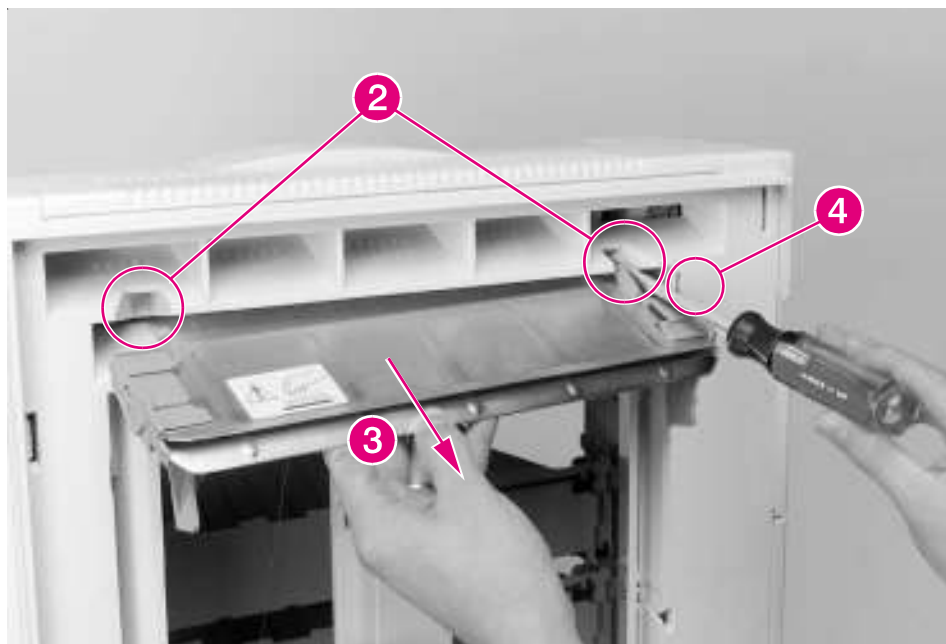

Figure 6-162 8-bin Mailbox Input Paper Guide (2 of 2)
- 4 Use a flat-blade screwdriver to release the retaining tabs that secure the Input Paper Guide to the upper-right side of the 8-bin Mailbox (Figure 6-162, callout 2).
- 1 Reroute the ground wire through its access hole (Figure 6-162, callout 4).